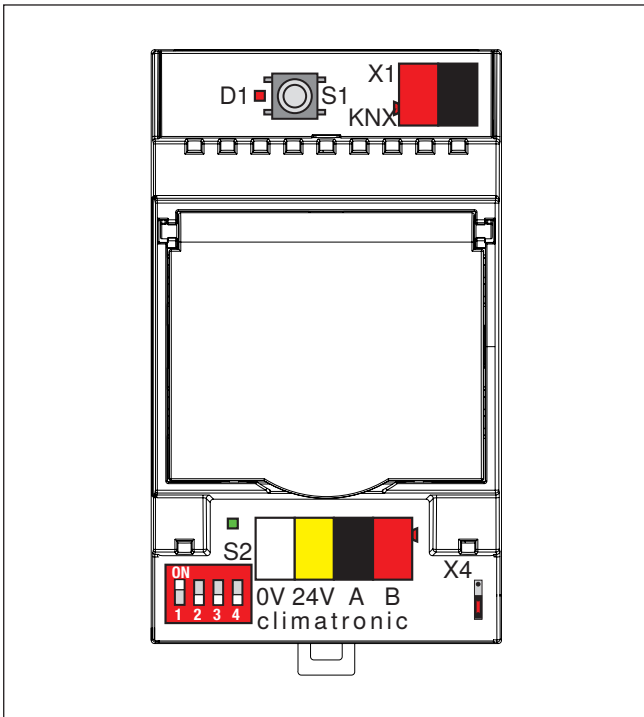

Fig. 3 KNX Gateway
Up to four KNX Gateways can be used per WAREMA climatronic®. For these to be correctly addressed by the climatronic, the encoding switches **S2** (see also Fig. 3) must be set as shown in the following table.
- Press the learn button **S1** (Fig. 3) to put the device into programming mode. The red LED **D1** lights up when programming mode is active. The device is programmed on a PC with the corresponding software. This software ends the programming mode automatically. The red LED goes out.